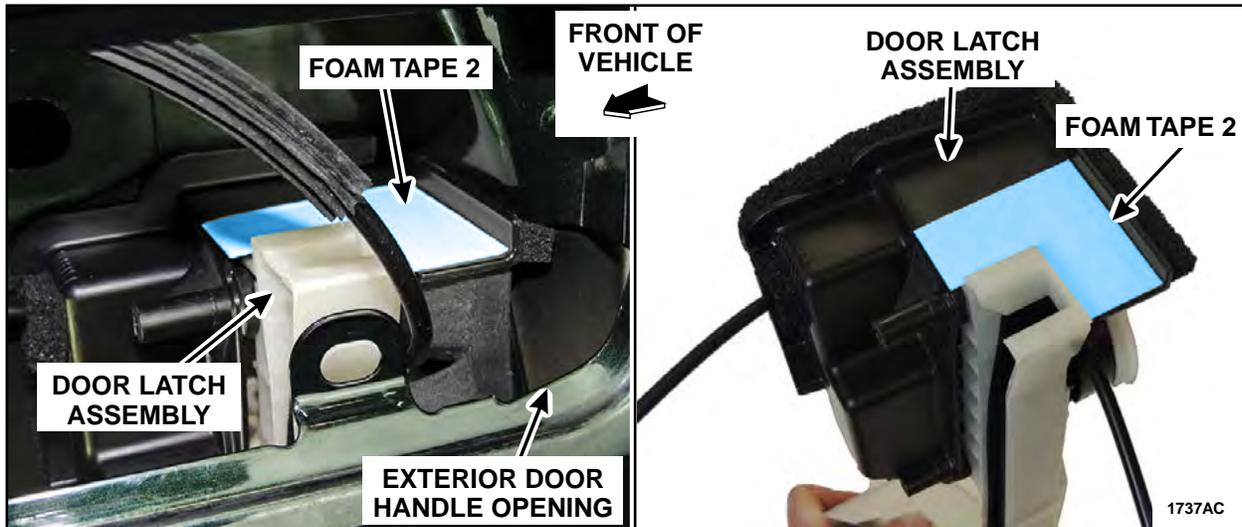

FIGURE 79
3. Clean the highlighted area on top of the door latch water shield with isopropyl alcohol and a clean shop cloth where the Foam Tape 2 will be installed. See Figure 79.